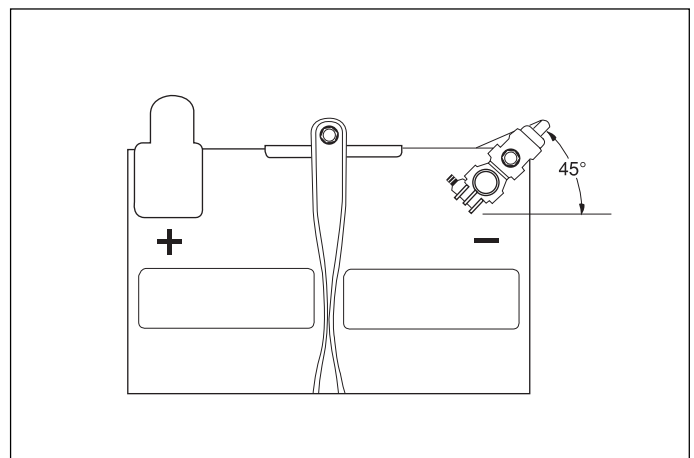

Fig. C9
- ➔ 9. Reconnect the vehicle's negative battery cable at a 45° angle. (Fig. C9)